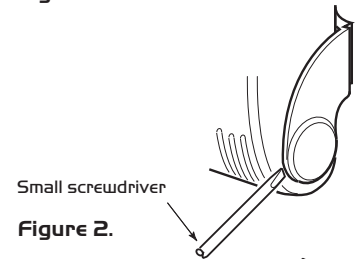

Figure 2.
- c) Carefully separate the indicator from the backplate using a small screwdriver. (see Fig 2). Note: the indicator will remain connected by its internal cable.